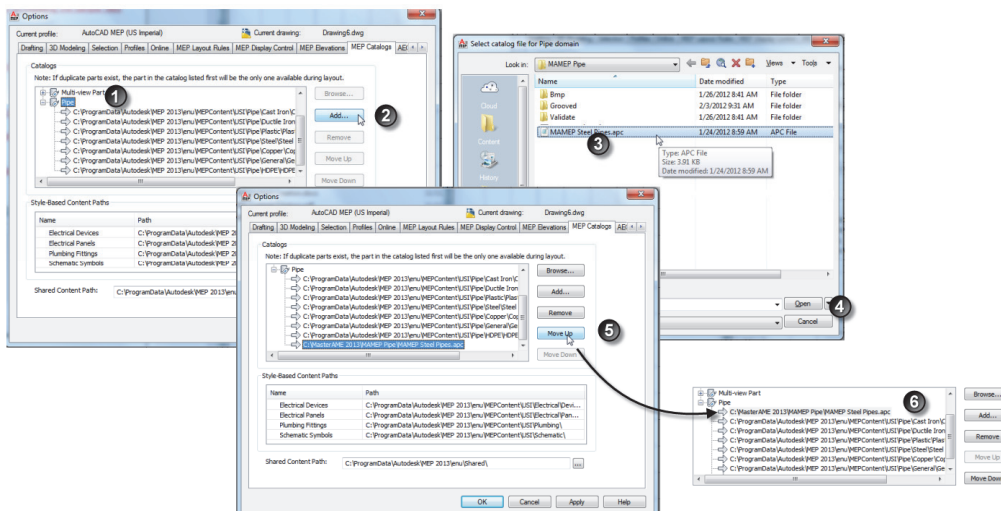

FIGURE 11.1
7. Back in the “Options” dialog, click the Move Up button to place the MAMEP catalog at the top of the Pipe list (see Figure 11.1).